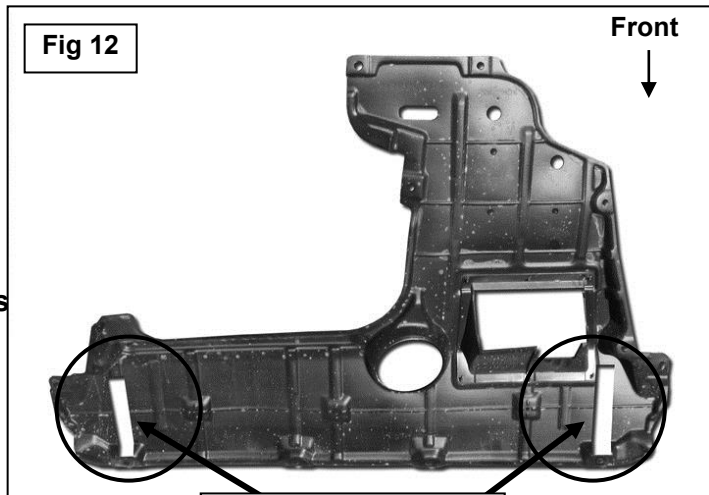

Fig 12
6. Level and adjust the Grille Guard and tighten all Frame Bracket to chassis hardware only. Temporarily remove the Grille Guard. Hold the plastic splash guard up into position against the Frame Brackets. Mark the location of the Brackets onto the cover. Carefully cut the splash guard only enough to clear the Frame Brackets, **(Figure 12)**. Do not cut completely through the front edge of the cover. Do not cut off any mounting locations from the cover. To maintain strength, cut only material that is required to clear the Frame Mounting Brackets. Once cut and trimmed for clearance, slide the splash guard over the Brackets but do not reinstall.
Figure 12 illustration is for example only.